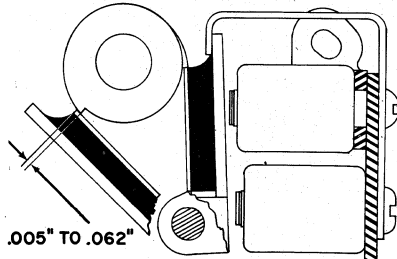

Figure 24
6. Cycle the punch shaft so the detent cam is about halfway around in the shaft's rotation and manually turn the clutch sleeve backward to be sure that the square stud on the inside of the sleeve is against the non-expanded clutch spring. Maintaining this condition, continue to cycle the punch until the detent cam is .005" to .062" short of latching (Figure 24). At this position, turn the clutch collar (set screws loose) toward the armature latching surface until it touches. This results in the clutch spring being properly positioned to expand as the clutch detents. Tighten the clutch collar set screws with the clutch collar tight against the clutch detent cam.